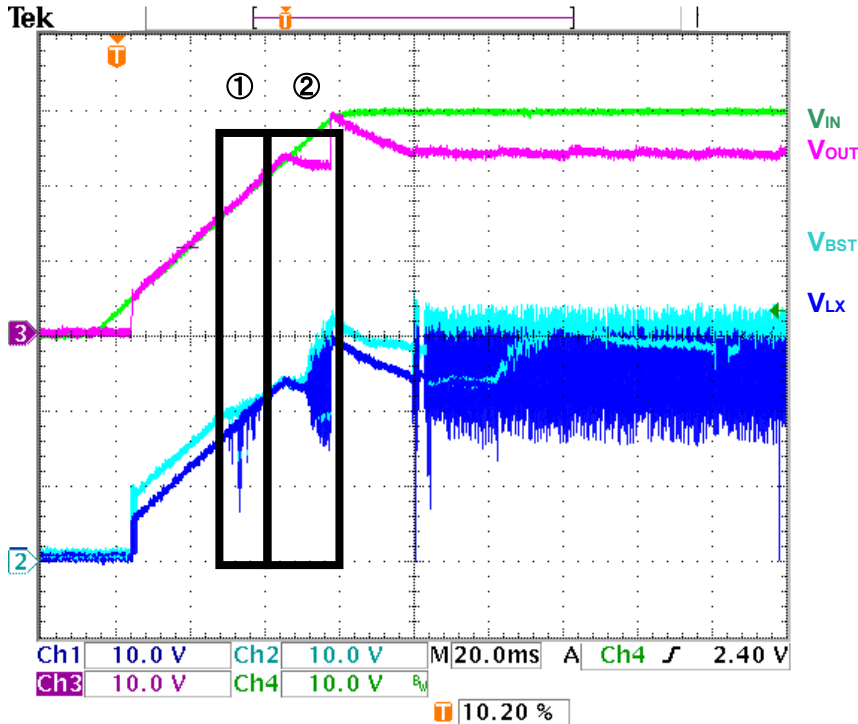
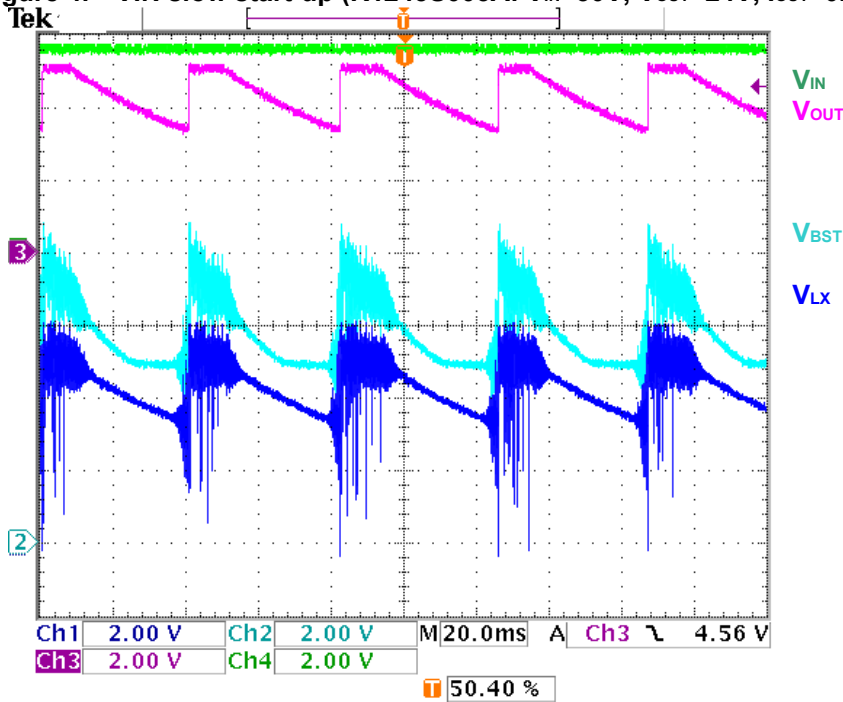

Figure 4. V_{IN} slow start-up (R1245S003A: $V_{IN}=30V$, $V_{OUT}=24V$, $I_{OUT}=0mA$)
Figure 5. The voltage difference between input and output is small (R1245S003A $V_{IN}=5.5V$, $V_{OUT}=5V$, $I_{OUT}=500\mu A$)
When the inductor current is continuous, or load current is big enough even if the discontinuous mode, the forward current of the diode will make Lx pin voltage down and C_{BST} is charged, but at light load, Lx pin voltage does not become low enough against the BST voltage supply regulator output(5V). The voltage of C_{BST} is not high enough and drive capability will be down. (Figure 4-①) Due to the lack of the drive capability, V_{OUT} cannot be maintained, and under-shoot happens to V_{OUT} , Lx pin voltage may become lower than the BST voltage supply regulator output (5V), but the error amplifier operation may be abnormal. When the charge of C_{BST} is recovered and normal switching starts, V_{OUT} becomes back to set output voltage. However, after recovering the V_{OUT} , to recover the error amplifier's operation, some response time is necessary, during this response time, V_{OUT} may be over-shoot. (Figure 4-②) As a result, Lx pin voltage cannot be low enough against the BST voltage supply regulator output voltage (5V), under-shoot and over-shoot may be repeated. (Figure 5)
Abnormal waveforms are shown in the next figures. Figure 4: V_{IN} voltage start-up is slower than the soft-start time Figure 5: The voltage difference between input and output is small